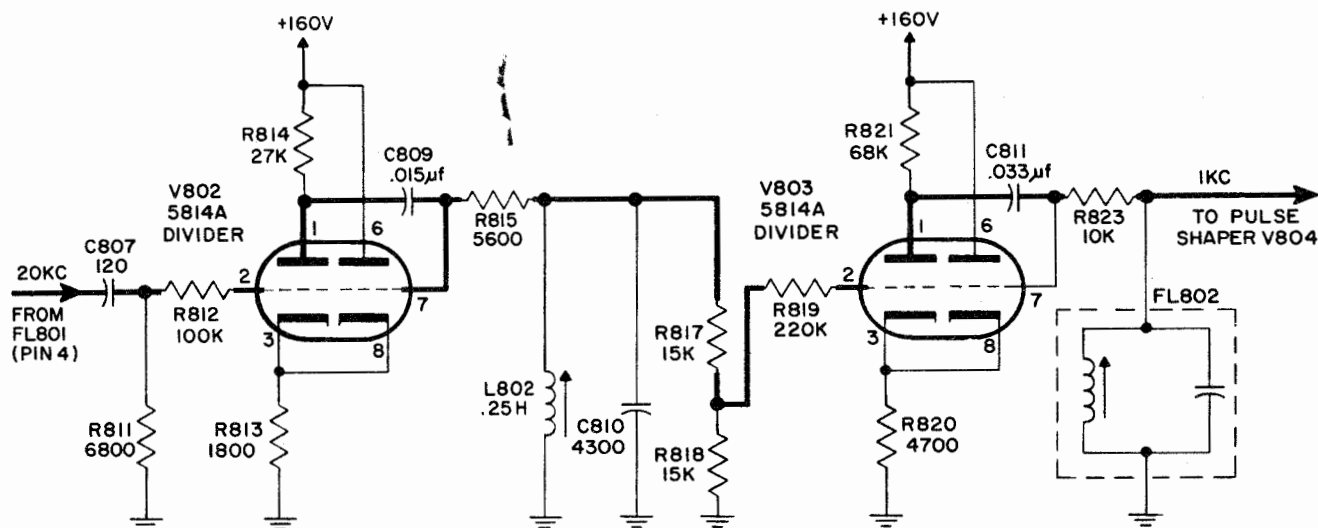

Figure 4-48. Dividers V802 and V803, Simplified Schematic Diagram
c. DIVIDERS V802 and V803. (See figure 4-48.)—Frequency dividers V802 and V803 are locked oscillators which divide the 20 kc signal from the harmonic generator and filter FL801 by four (V802) and then by five (V803) to 1 kc, which is applied to pulse shaper V804 for use as an accurately controlled trigger signal.